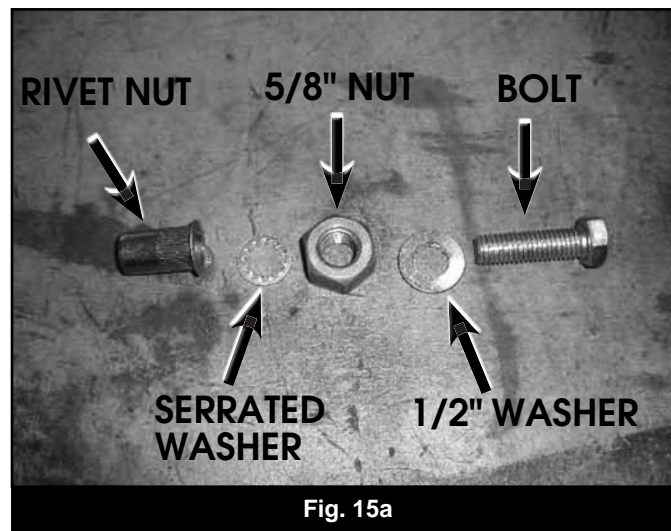

Fig. 15a
35. Install rivet nuts with serrated edge washer as shown (Fig 15a, 15b, 15c – shows collapsed rivet nut as a reference). The 1/2" bolt goes thru the 5/8" nut with a serrated edge washer that will bite into the rivet nut to keep it from spinning. Tighten until the backside of the rivet nut has been deformed INSIDE THE FRAME RAIL and is set into place (rivet nut will lock itself in place).